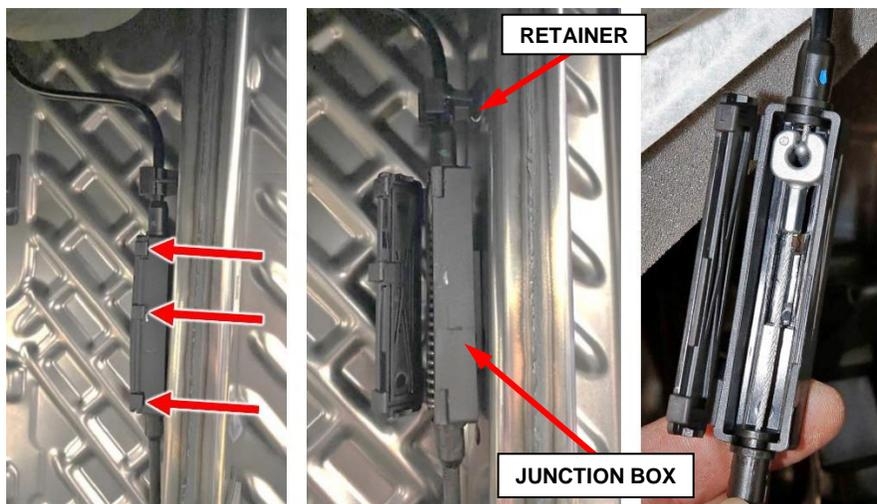

Figure 77 – Headrest Cable Junction Box and Retainer
17. Open the headrest cable junction box cover by using a small flat head screwdriver to release the three tabs (Figure 77).
18. Remove the headrest cable end fitting from the junction box (Figure 77).
19. If there is a retainer just above the junction box, release the headrest cable from the retainer (Figure 77).
57. Install the headrest cable end fittings into the junction box and ensure the cable ends are connected to each other inside the junction box (Figure 77).
58. Close the headrest cable junction box cover and ensure the cover is secured by the three tabs (Figure 77).
59. Secure the headrest cable to the retainer on the seat back frame sidemember (Figure 77).